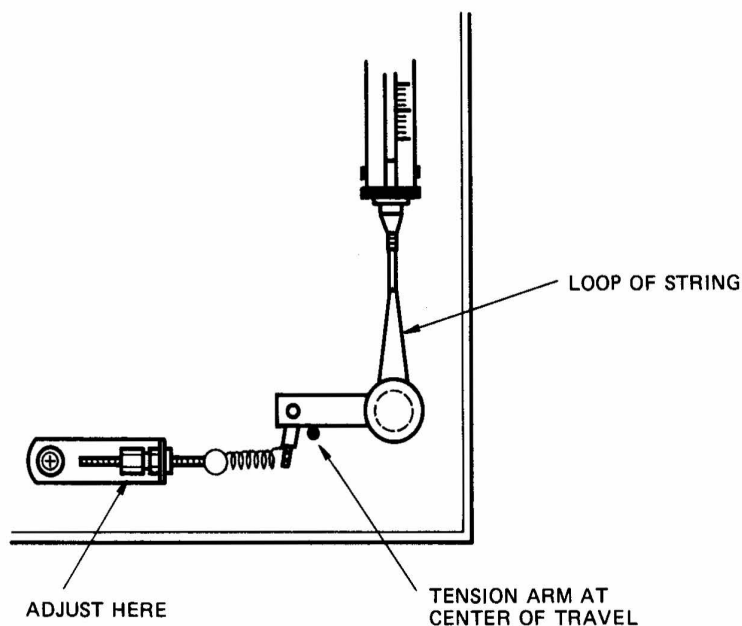

Figure 4-3 Tension Arm Spring Tension Measurement
- (1) Attach the 0 - 2000 gram spring scale to the Tension Arm Roller with a loop of string.
- (2) Pull the spring scale toward the rear of the machine until the Tension Arm is in the middle of its travel, and measure the spring tension. Refer to Figure 4-3.
- (3) If the spring tension is not 500 grams  $\pm$  10%, then loosen the lock nut on the Spring Adjusting Screw by holding the portion closest to the Anchor Bracket and unscrewing the outer portion. Adjust the inner nut as necessary to obtain 500 grams  $\pm$  10% tension reading on the spring scale. It is good practice to adjust both Supply and Take Up Tension Arms to the same tension within  $\pm$  10 grams.
- (4) Tighten the outer portion of the double nut to lock the adjusting screw in place.